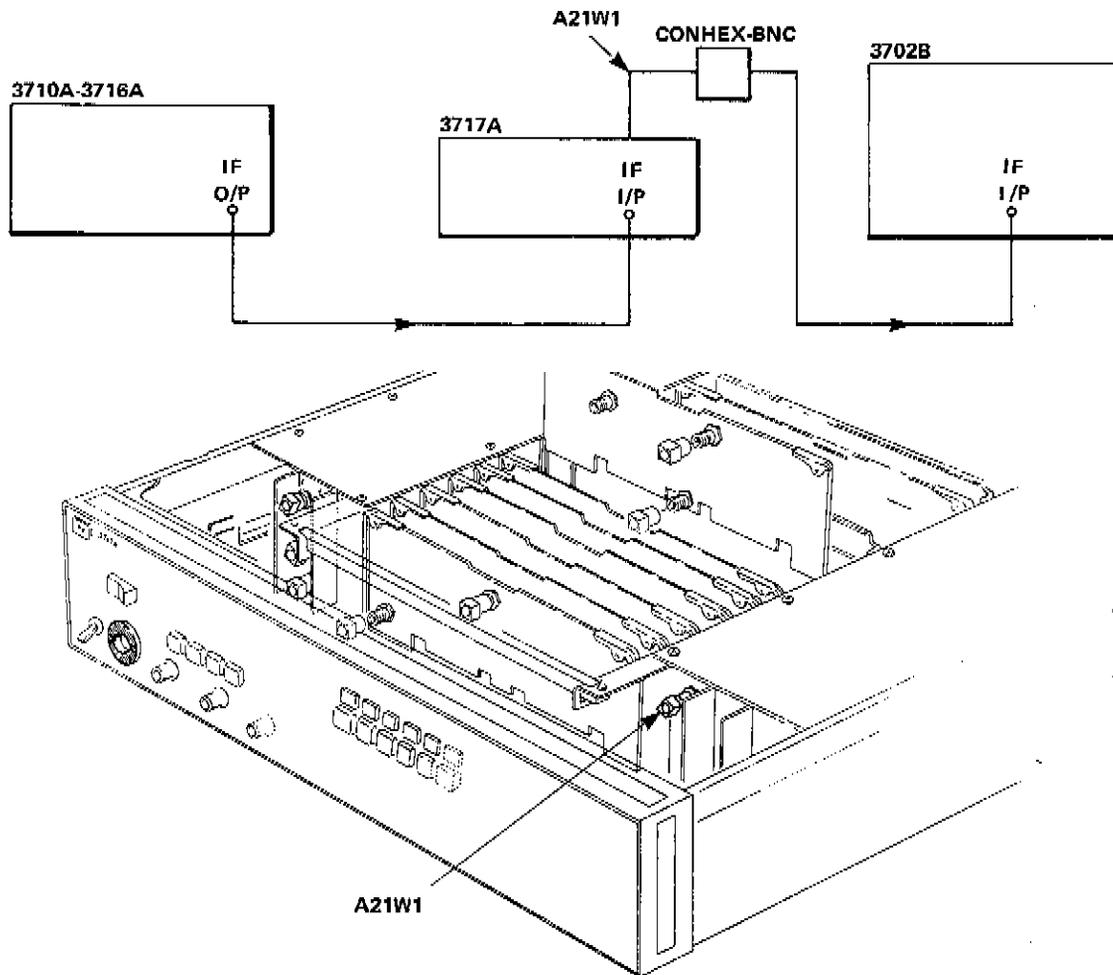

Figure 5-9 IF Input Flatness Setup and Location of A21W1
7. Connect the equipment as shown in Figure 5-9. Set the controls as follows: